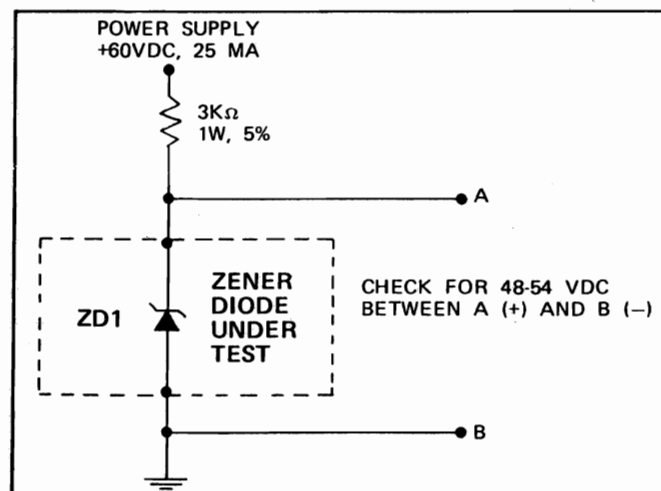

FIG. 13-64. ZENER DIODE TEST CIRCUIT.
4. Check zener diode ZD1 by using a 60 vdc, 25 ma power supply; a 3k ohm, 1w, 5% resistor; and a digital multimeter. Construct the ZD1 test circuit shown in Fig. 13-64. ZD1 should regulate at 48 to 54 vdc between its cathode (+) and anode (-).